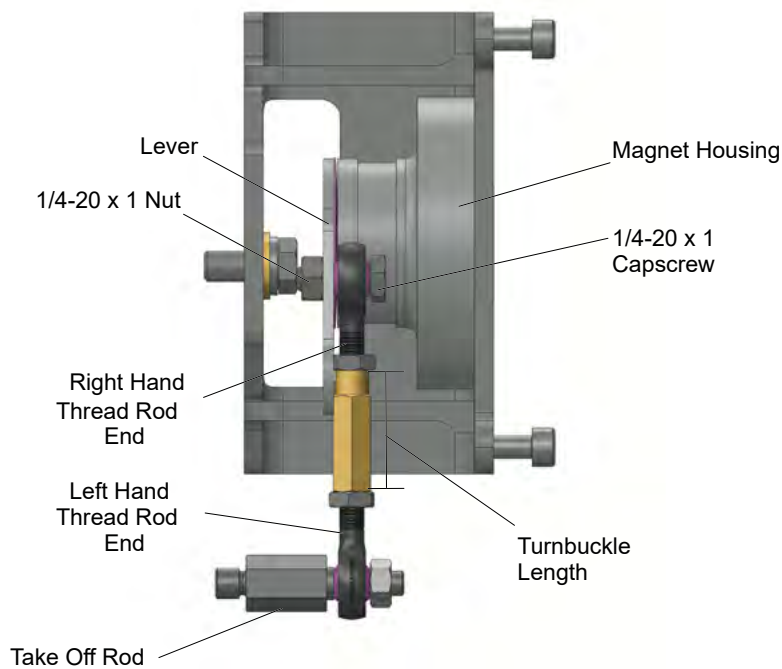

Figure 13 - Reciprocating Linkage
6. Apply Loctite® and thread the take-off rod to the actuator stem connector (Figure 13). Ensure that the travel pointer located on the coupling is correctly positioned.
7. Attach the right hand threaded rod end to the lever using a 1/4 - 20 x 0.75" cap screw and nut as shown in Figure 13. The lever hole position to be used depends upon the specific valve stroke. Refer to Figure 12 and the Reciprocating Valve Linkage Selection, Table 3 on page 31.
9. Secure the magnet housing assembly, including the lever and right hand rod end, to the bracket with four M5 X 10 mm flat head screws using 5mm Hex Key (Figure 13).
11. Thread the turnbuckle onto the left hand threaded rod end. Refer to Figure 13.